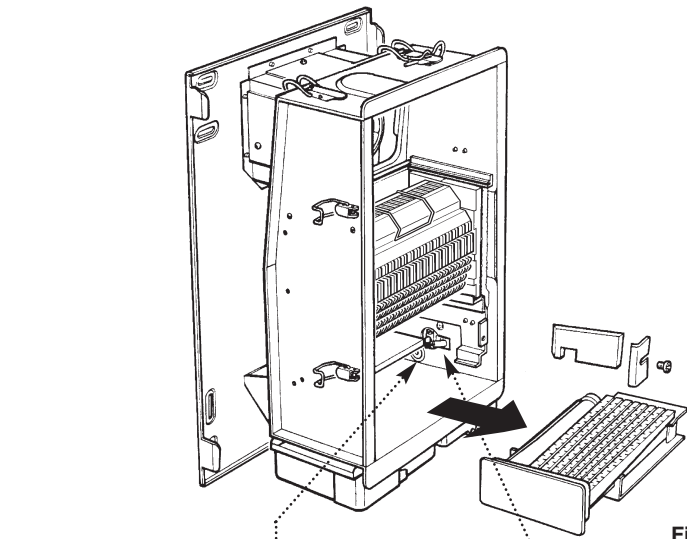

Fig. 124
10.10 Burner (Fig. 124)
1. Remove the right hand side insulation carrier bracket by releasing the screw. Remove the side insulation panel (Fig. 124).